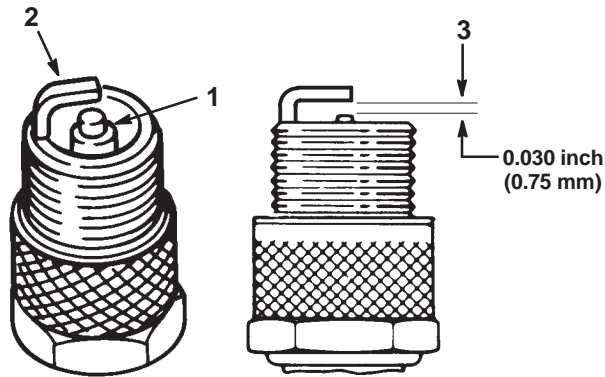

Figure 33
1. Look at the center of the spark plugs (Fig. 33). If you see light brown or gray on the insulator, the engine is operating properly. A black coating on the insulator usually means that the air cleaner is dirty.
3. Check the gap between the center and side electrodes (Fig. 33). Bend the side electrode (Fig. 33) if the gap is not correct.